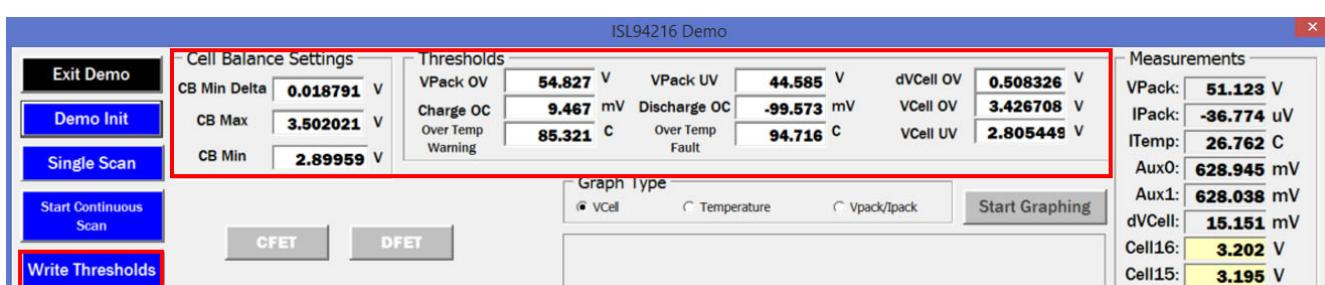

Figure 66. Demo Thresholds
**Demo Init** sets some of the key thresholds in the ISL94216 to values more useful than that of the default values, but these values might need to be modified further. To modify any of the available settings, simply change the value in the boxes highlighted in Figure 66, then press the **Write Thresholds** button. A single scan can be used to confirm the settings were written correctly.